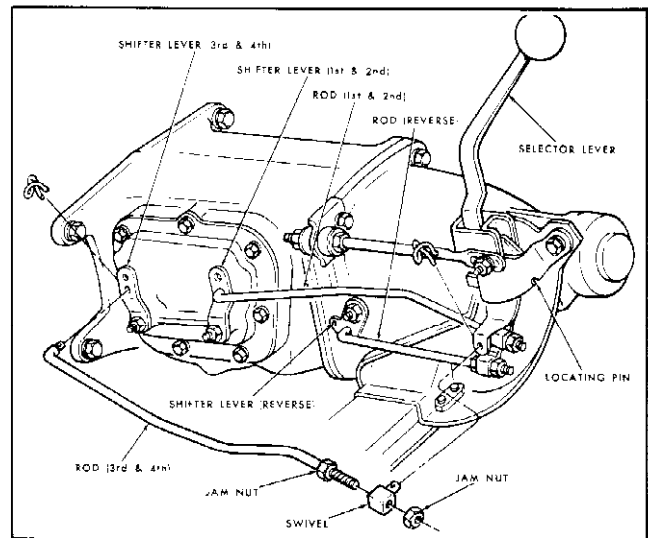

Fig. 7C-1 Gearshift Controls - Floor Shift
2. Loosen swivel jam nuts (Fig. 7C-1) on transmission gearshift control First and Second, Third and Fourth and Reverse rods.